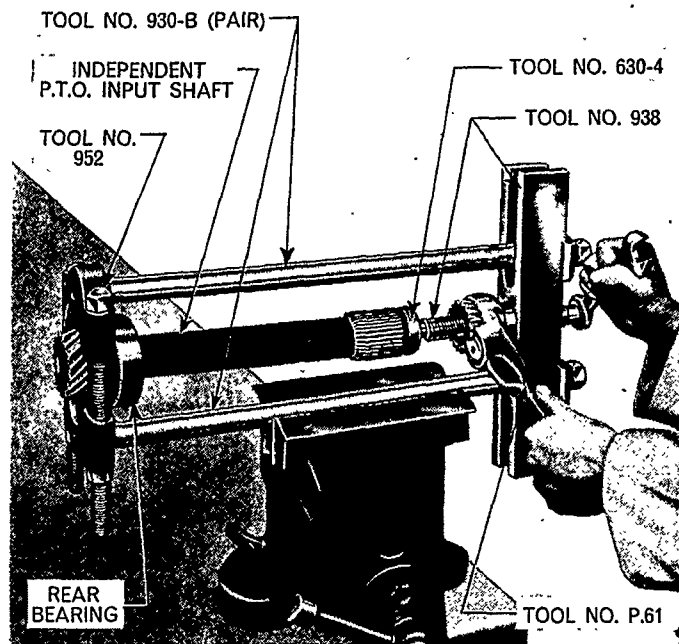

Figure 16
5. Inspect the input shaft and rear bearing for wear or damage and if necessary remove the bearing using Tools Nos. 952, 930-B (pair), 630-4, 938, and P 61, Figure 16.